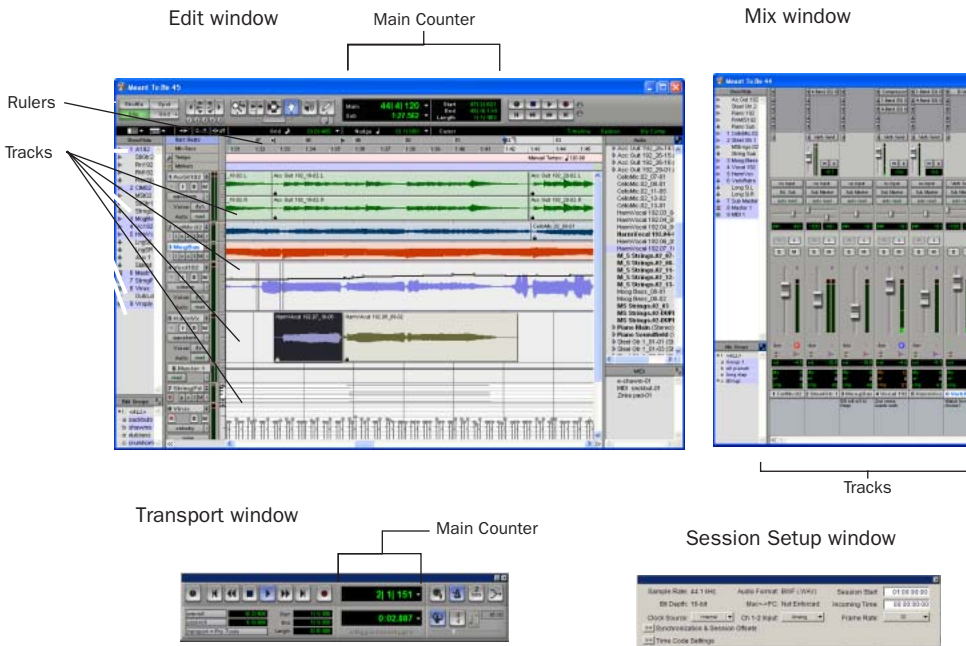

Figure 8. Main session windows
- 6 Click Save. The new session opens its Mix, Edit, and Transport windows (see Figure 8 on page 76).